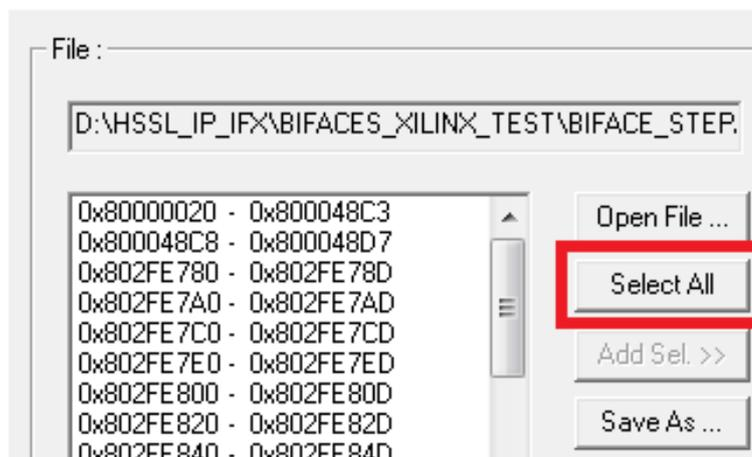

Figure 10: Address Selection
12. After opening the file, click **Select All** (Figure 10):
13. Slide down and unselect all the values starting with 0xAF4X XXXX, the last 8 values (Figure 10).